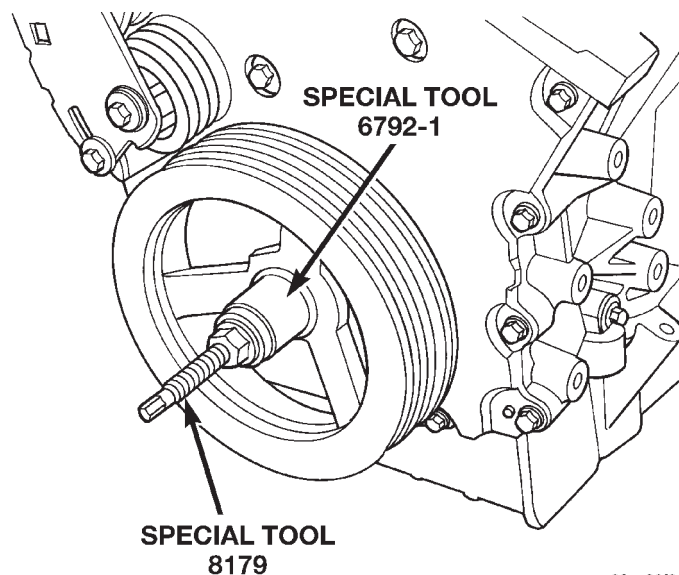

Fig. 32 Crankshaft Damper—Installation
- (1) Install damper using Special Tools 8179 Screw, with Nut and Thrust Bearing from 6792, and 6792-1 Installer (Fig. 32).